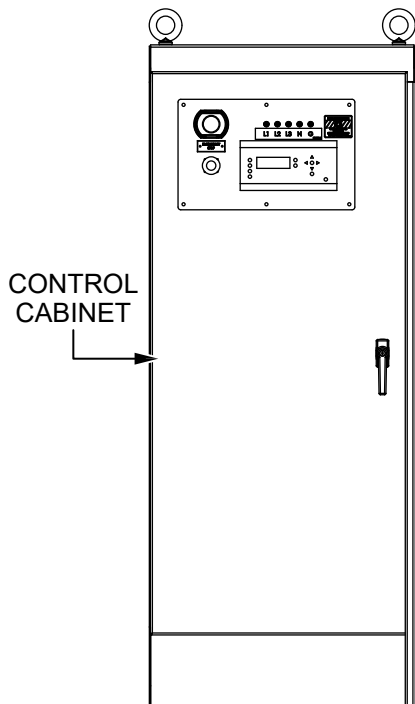

Figure 3. Control Cabinet
3. Open the **control cabinet** (Figure 3) to access the DEIF controller wiring.